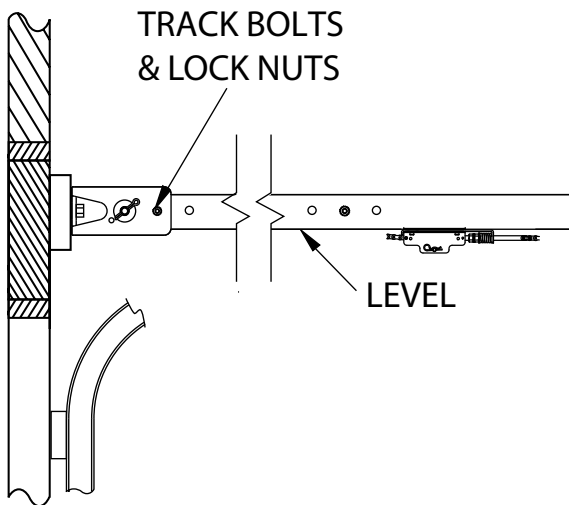

FIG. 9
1. Raise the operator and position it so that the drawbar tracks are level and perpendicular to the face of the door (or the stile where the door bracket will be attached). FIG. 9.